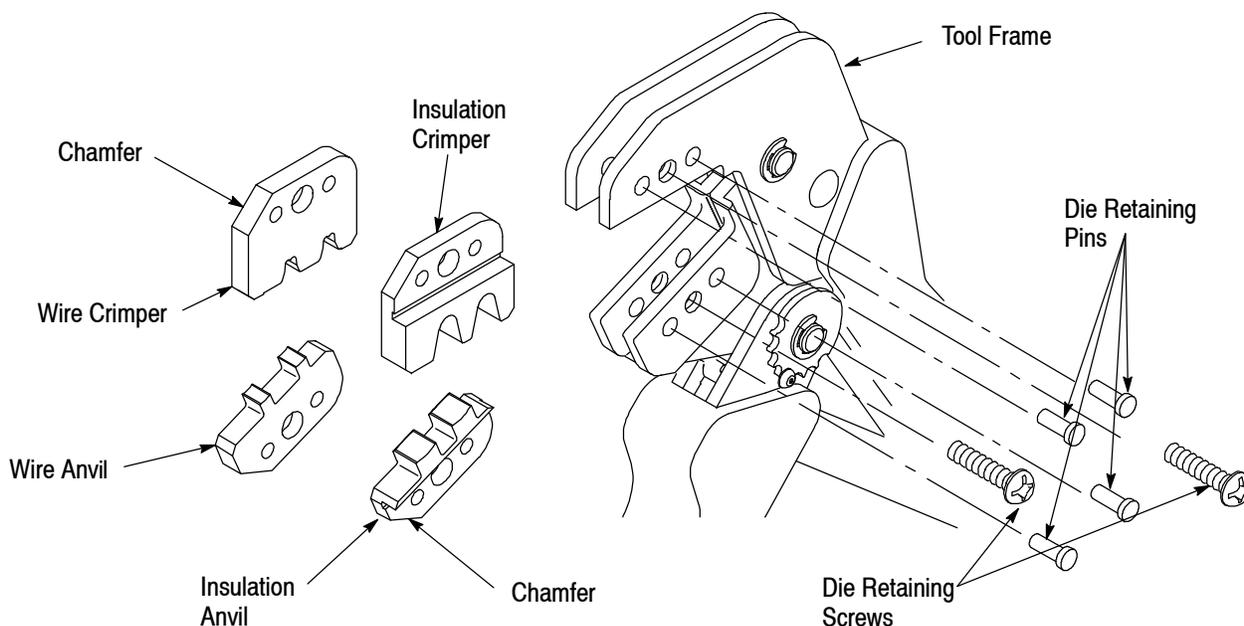

Figure 2
2. DESCRIPTION (Figures 1 and Figure 2)
3. INSTALLATION AND REMOVAL OF DIE SET (Figure 2)